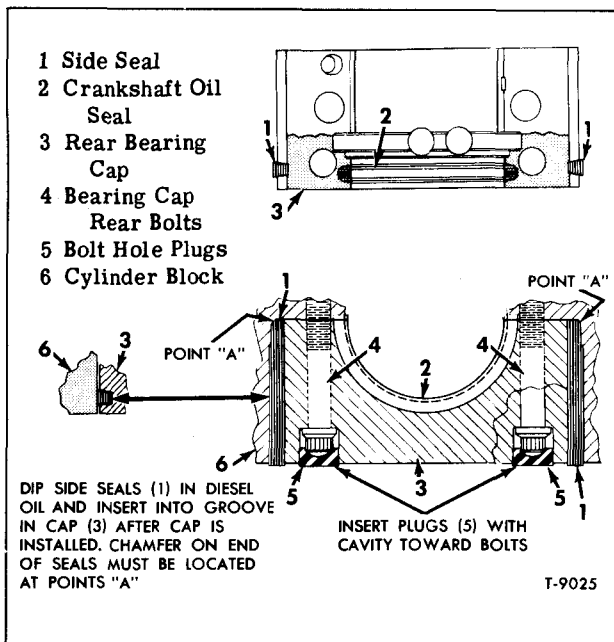

Figure 7—Cross Section of Rear Bearing Cap and Seals
2. Referring to figure 7, remove bolt hole plugs (5), then remove the four rear main bearing cap bolts, and the two side bolts.
3. Apply sealer on cylinder block area contacted by main bearing cap (shaded area in figure 7). Oil the cap bolt threads and washers with S.A.E. #10 engine oil. Insert 5/8-11 bolts with washers into holes in bearing cap and start bolts into threads but do not tighten bolts until side bolts and the two vertical bolts (4, fig. 7) have been started into threads.
4. Using torque wrench, tighten the 5/8-11 cap-to-cylinder block bolts to 170 to 180 foot-pounds. Tighten the 1/2-13 bolts to 90 to 100 foot-pounds torque and insert plugs (5, fig. 7) into bolt holes with cavity toward bolt heads.